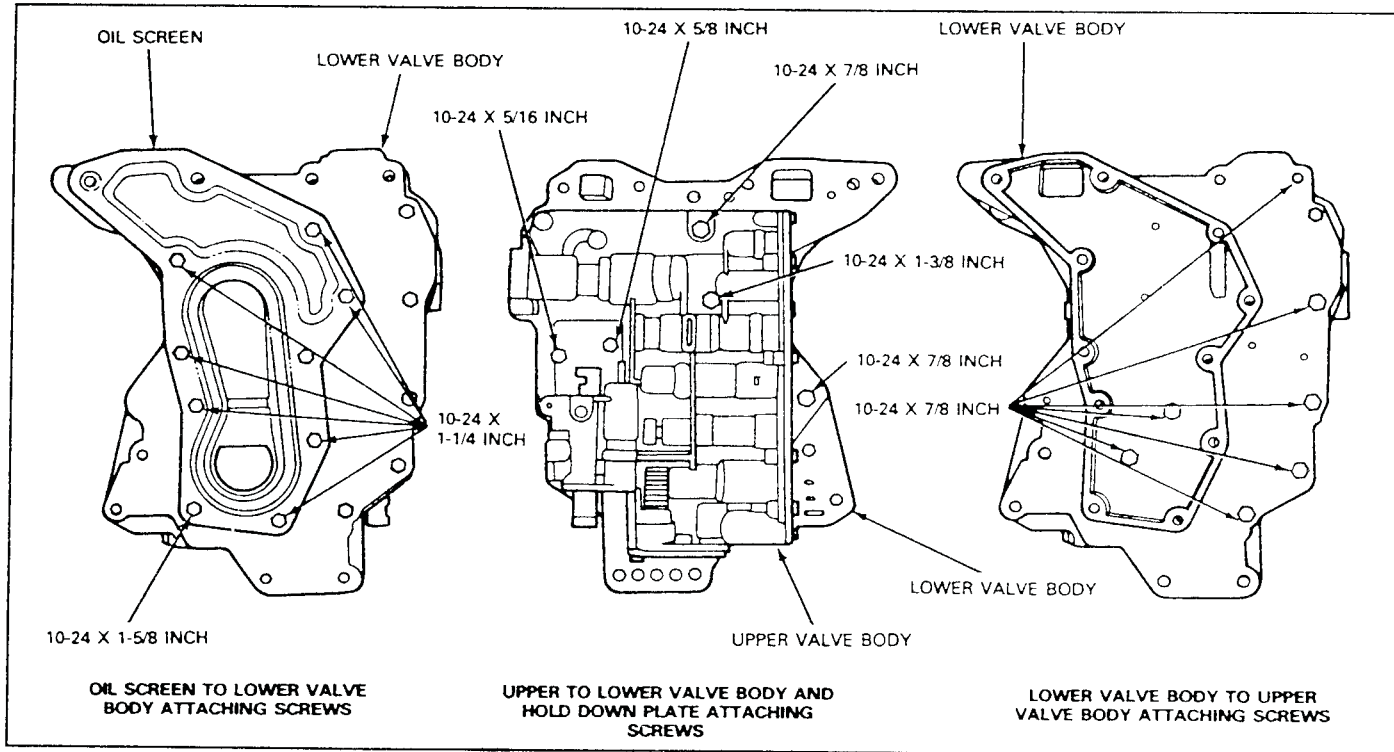

FIG. 24 Control Valve Body and Screen Attaching Screws
4. Place the lower body and plate assembly on the upper valve body (Fig. 24) and install the attaching screws finger tight.
7. Remove the oil screen attaching screws and place the gasket and oil screen in position on the lower valve body. Re-install the screen attaching screws (Fig. 24).